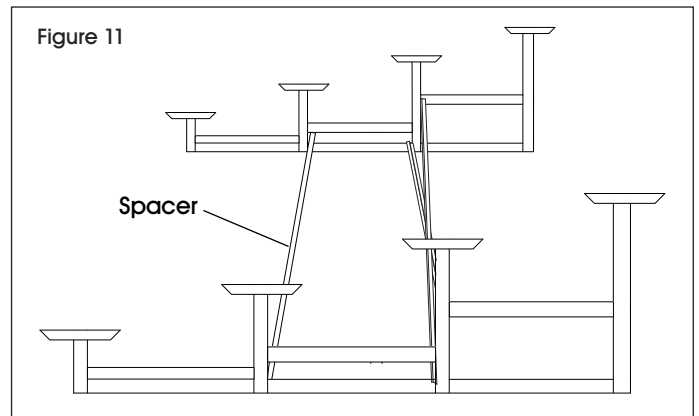

Figure 11
6. Attach the spacers to the back of the second seat frame using a 3/8" bolt and flange nut. Tighten with a 3/8" socket. (See Figures 11 and 12)